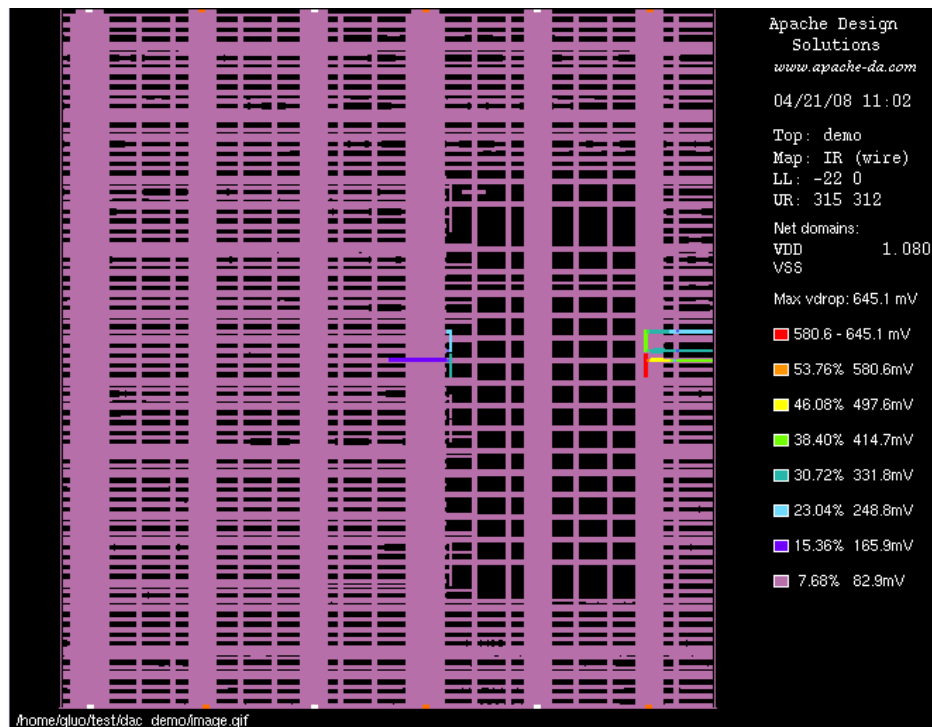

Figure D-1 Example dump of GIF file of RedHawk colormap
- a. The 'dump gif' command writes out colormaps in GIF format. You may set the color mapping scale by using 'config viewlayer' and 'config viewnet' commands, or by using the 'import guiconf' command to load a previously saved GUI configuration file for a particular color map. Otherwise, it uses the system default settings. The command generally uses the same color map names as are on the GUI view and menu functions. The GIF graphic saved is exactly as shown on the display, with the directory path at the bottom and key parameters about the display conditions on the right side, as shown in Figure D-1.